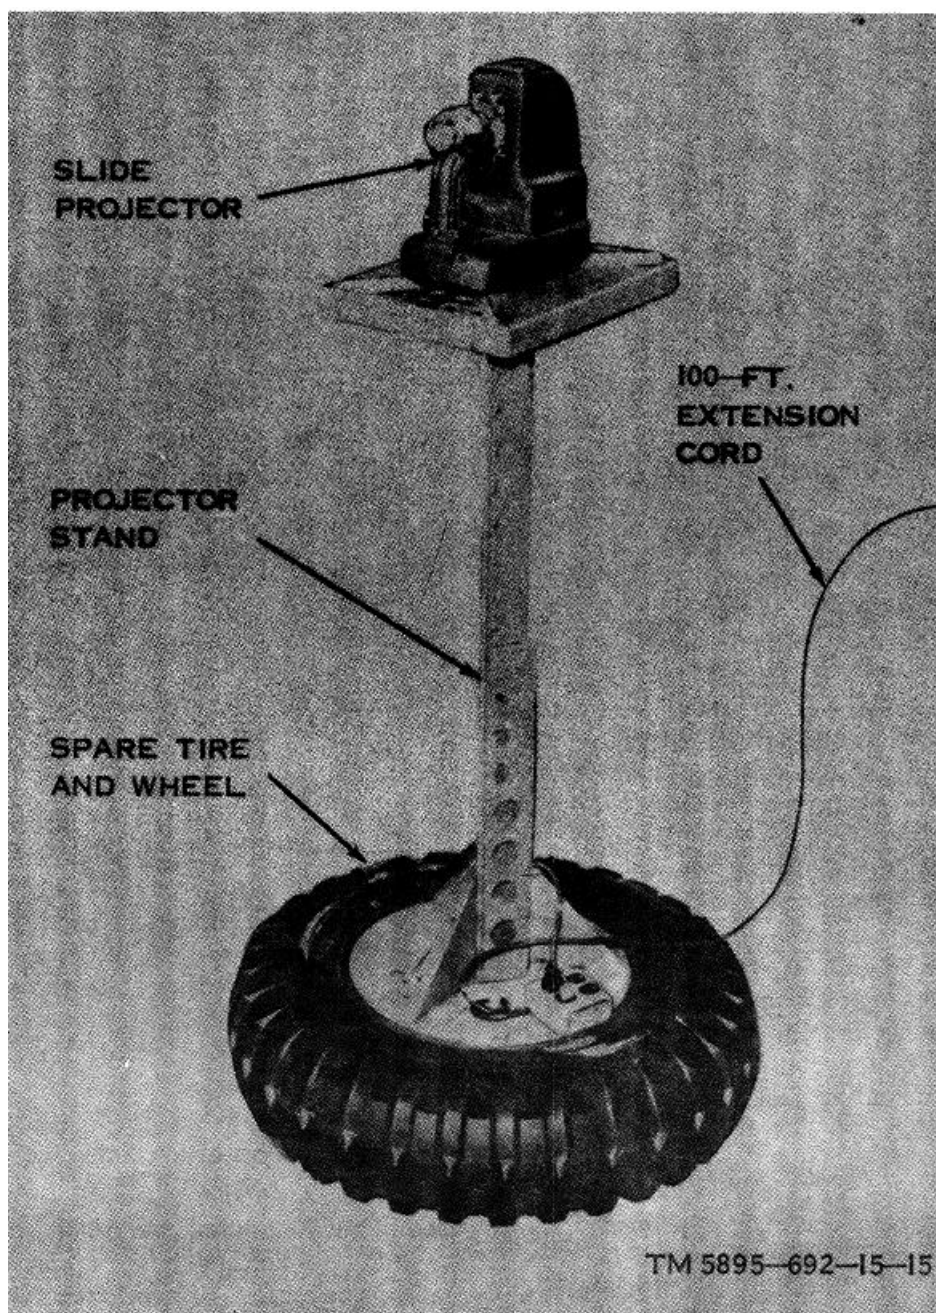

Figure 3-20. Slide projector mounted on projection stand, using spare tire and wheel as base.
(1) If the film must be projected from an outdoor site, position and level the truck's spare tire and wheel at the selected projection spot. Mount the projector stand on the spare tire and wheel using the tools furnished with the truck. Adjust the projection stand to the desired height, and clamp it securely in position. Set the movie projector on the projection stand, and clamp it securely in place. Figure 3-20 shows the slide projector mounted on the projector stand; the movie projector can also be mounted on the projector stand.
(2) If the film is to be projected indoors, set the movie projector on a sturdy table of sufficient height (if available); otherwise, use the projection stand and spare tire and wheel as described in (1) above.